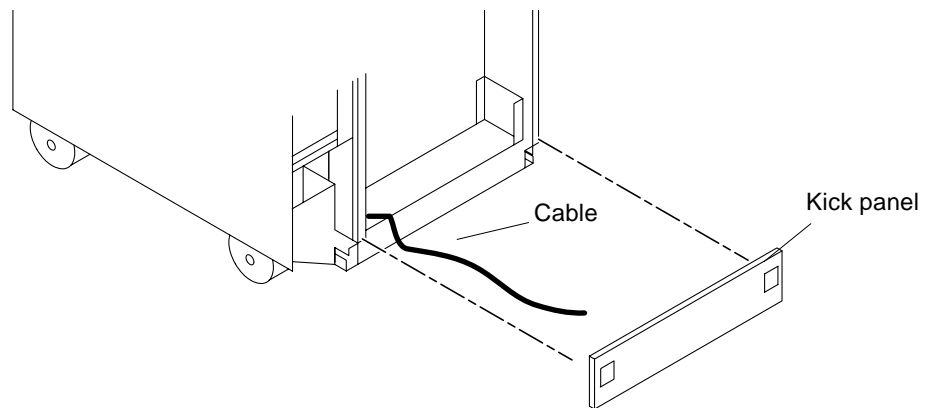
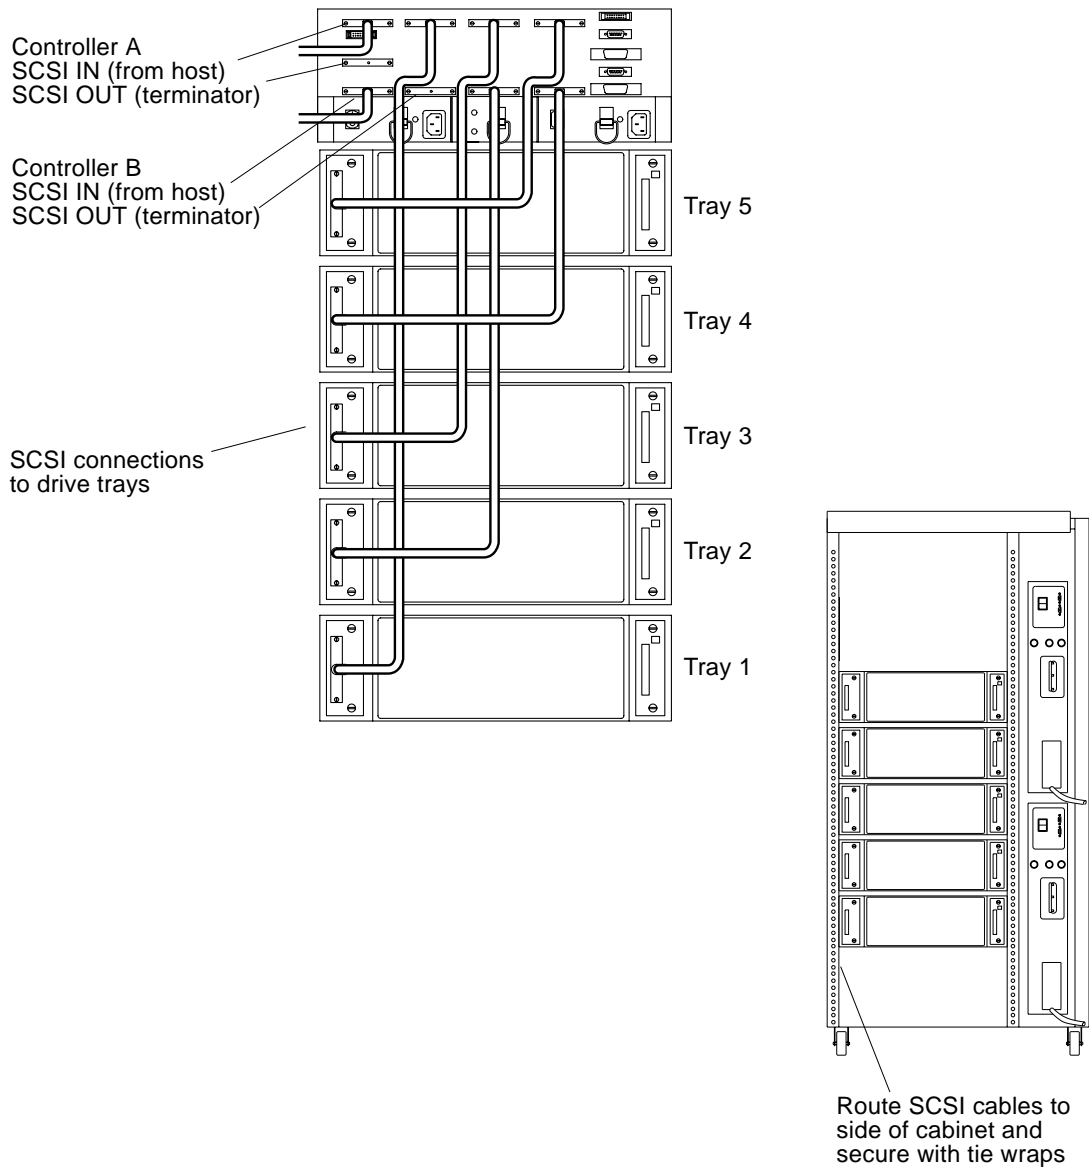

FIGURE 1-17 Routing the Host SCSI Cable Behind the Kick Panel
FIGURE 1-18 Connecting SCSI Cables to the Controllers and Drive Trays
1. **Install 16-bit, differential terminators to both host SCSI OUT connectors on the back of the controller module (FIGURE 1-18).**
Route both host SCSI bus cables from the bottom of the cabinet (FIGURE 1-17) and attach them to the HOST IN connectors on the back panel (FIGURE 1-18).
Connect SCSI cables from the drive tray connectors to the corresponding back panel connector shown in FIGURE 1-18. Make sure that you tighten the cable connector screws securely.